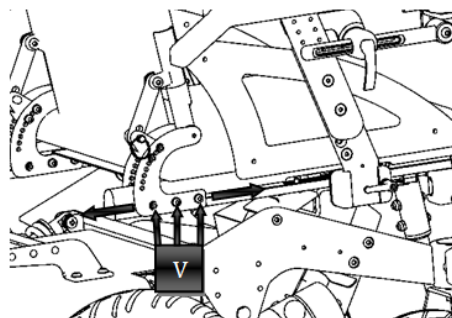

Figure 29
Seeing Figure 29 loosen the screws (V), move the backrest to the desired position and tighten the screws again. NOTE: For this operation use a 4 mm allen wrench.